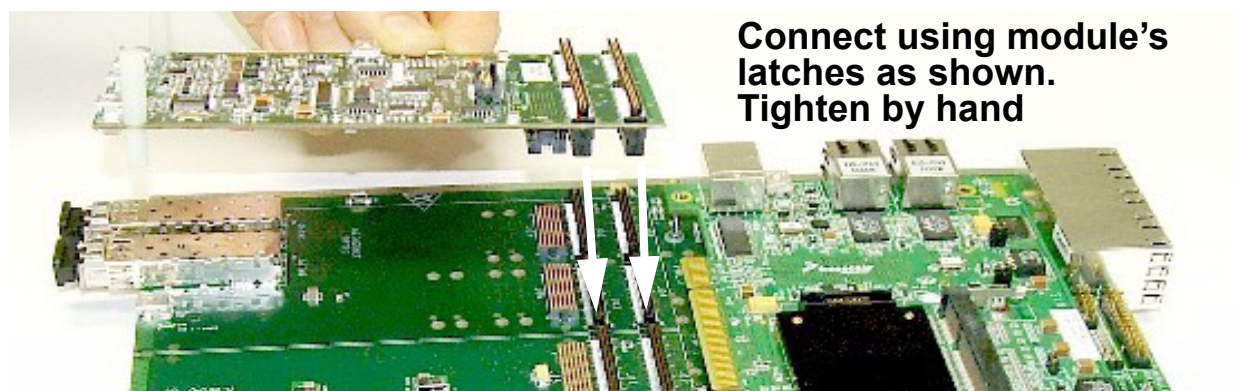
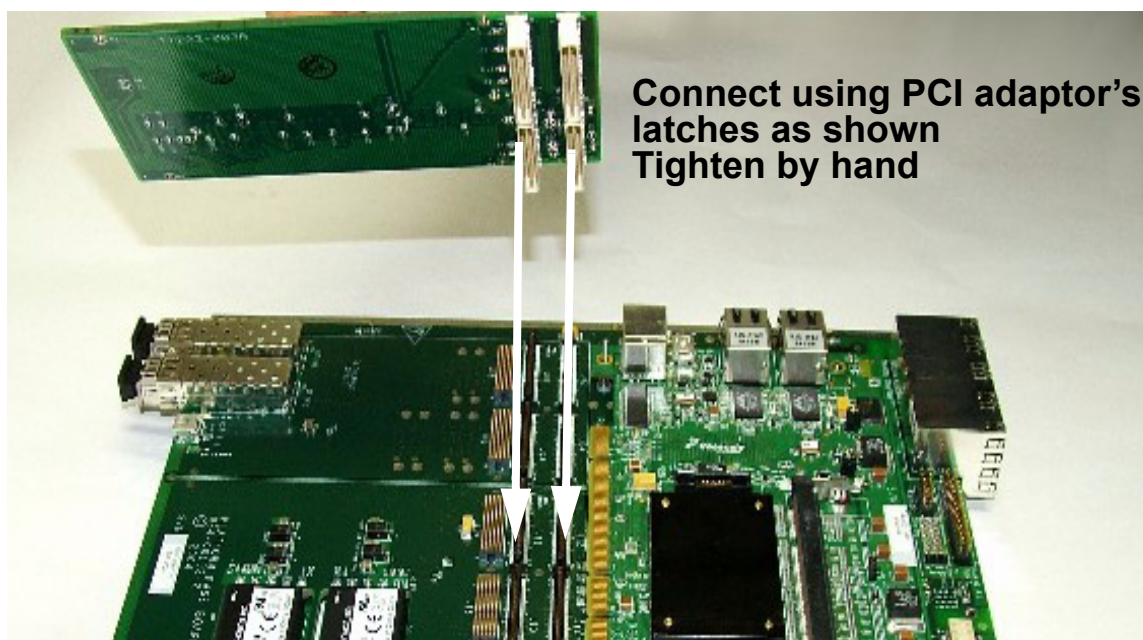
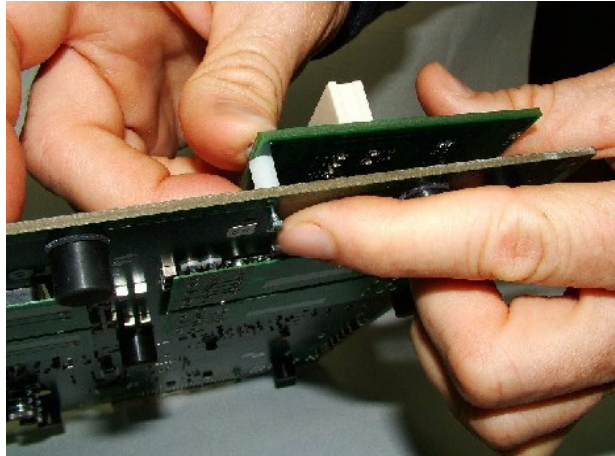
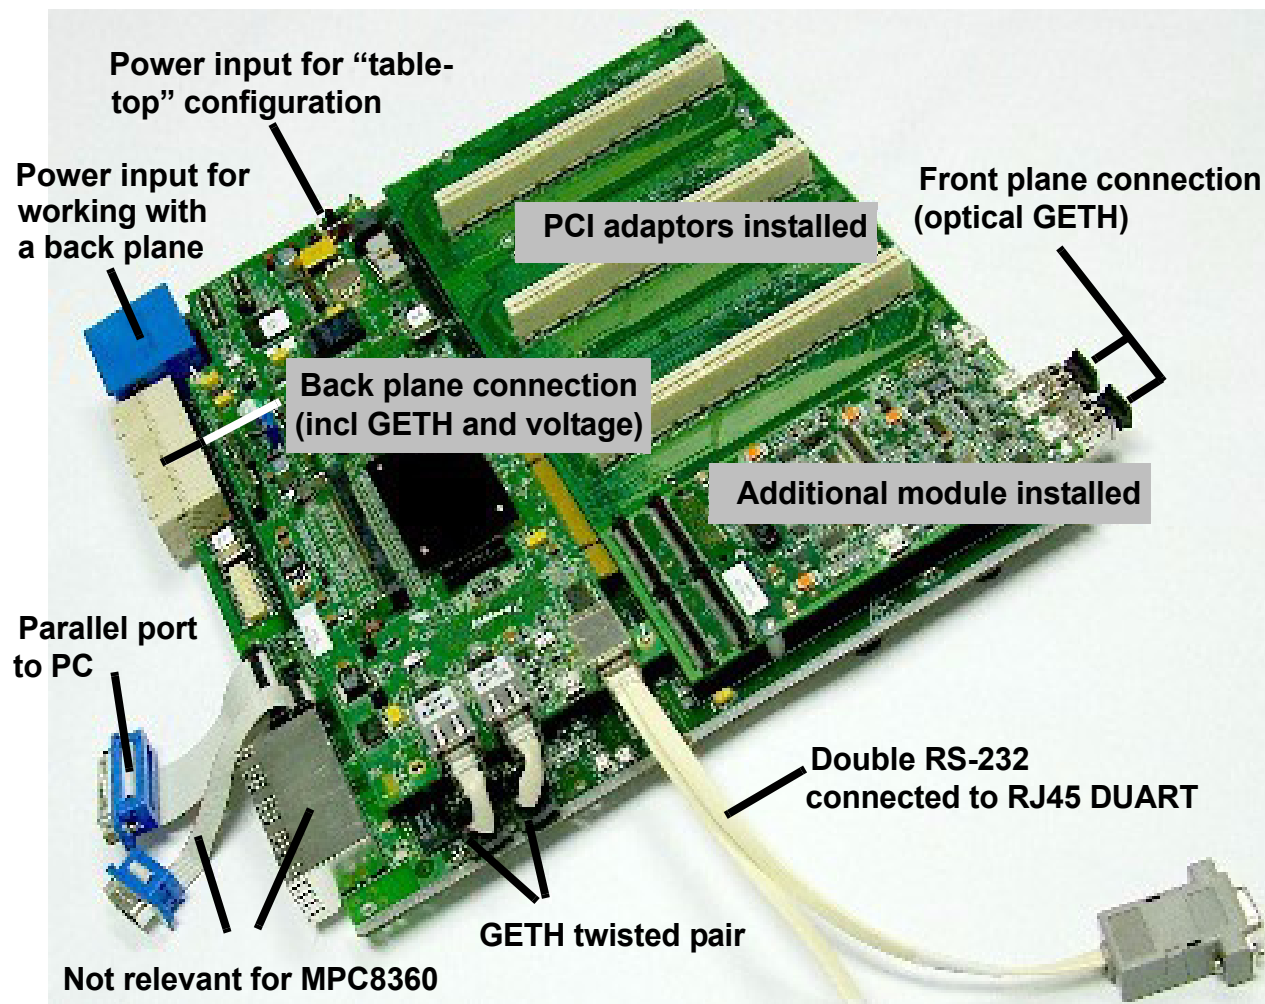

Figure 2-10. Connecting module card to PIB
Figure 2-11. Connecting PCI adaptor to PIB
Figure 2-12. Inserting spacers between PCI card and PIB
Figure 2-13. Fully Assembled Combined system:
8. If you wish to work with a module connected to a PCI adaptor, follow the illustrations in Figure 2-10, Figure 2-11, and Figure 2-12 to connect these items to the PIB.
9. The fully assembled PIB-Processor board is shown in Figure 2-13, which also shows the PIB external connections relevant when the MPC8360EA is used.
In Figure 2-13, three PCI adaptors and one additional module are shown installed on the PIB. The PCI cards are ready to receive any PCI-compatible board, including an 83xx Processor board, installed in this case in the same manner as they are in a PC. Using this system, these boards (up to three) function as agents, while the Processor board already installed functions as a host. This allows you to take advantage of the parallel processing capabilities of the 83xx line of products.
As an agent on the PIB: Insert PCI adaptor or adaptors into the PIB as shown in Figure 2-11 and Figure 2-12, then insert the Processor Board into an adaptor, using its PCI edge connector, as shown in Figure 2-13.